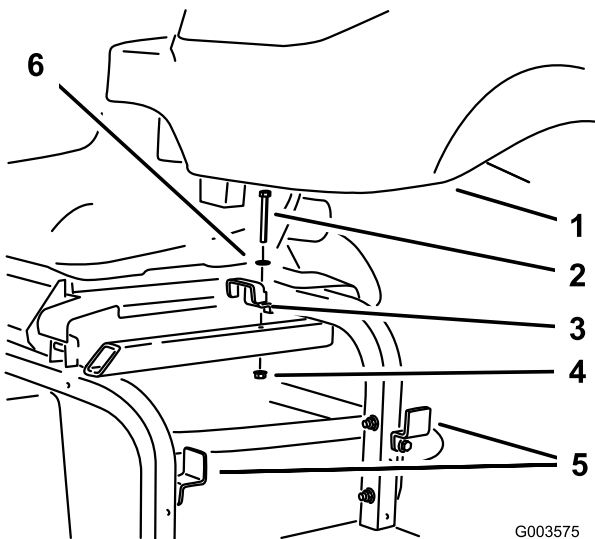

Figure 23
2. Install the hydraulic tank to the frame and secure it with the 3 brackets previously removed and loosened (Figure 23).